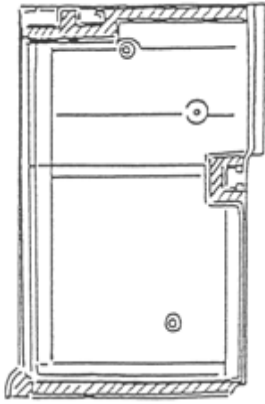

**Fig. C-7**
**STEP 11:** Cement mating grooves on both ends of the front air manifold as indicated in Figure C-7. Cement channels and mating surfaces on the left stove end as indicated in Figure C-5.